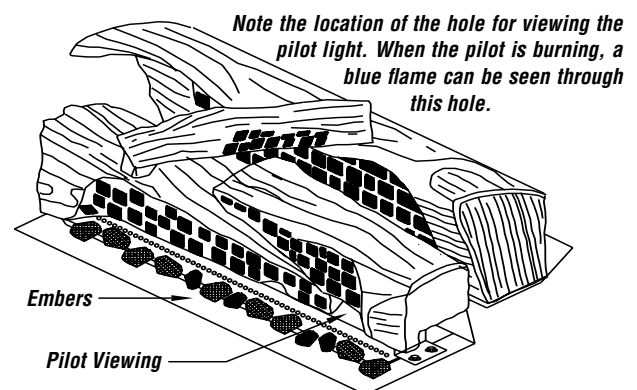

Figure 13
- 6) *Figure 13* shows the entire log set assembled. The embers provided may be placed one high in front of the front burner tube using care not to cover all the burner ports. Any extra embers may be placed at the ends of the front log, off the burner. Place small pinches of rockwool on top of the embers.